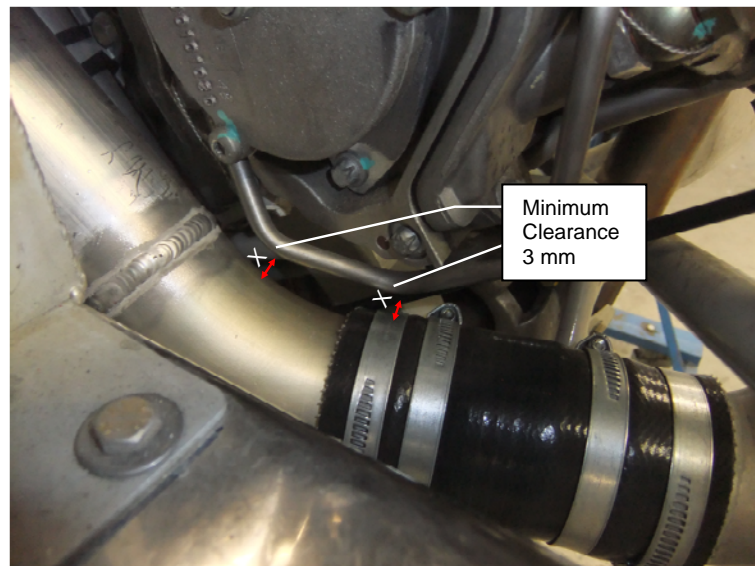

Figure 8: Attachment of charged air tube
- Make sure that the charge air tube has at **least** 3 mm clearance to the oil line aft of the engine (refer to Figure 8 below).